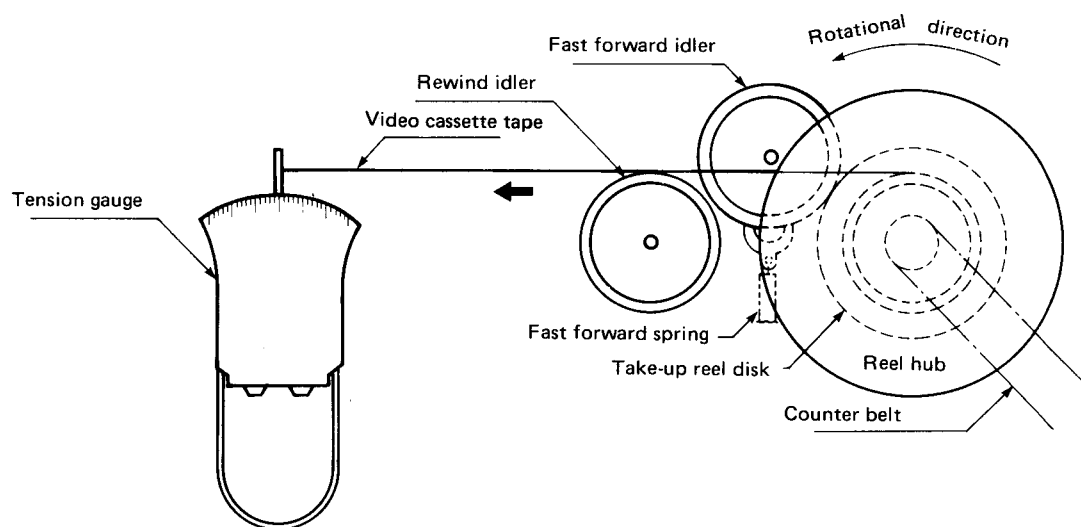

Figure 78.
2. Set the reel hub (with several turns of a tape on it) on the take-up reel disk, as shown in Fig. 78.
3. Slowly pull the tape to left as shown in Fig. 78.